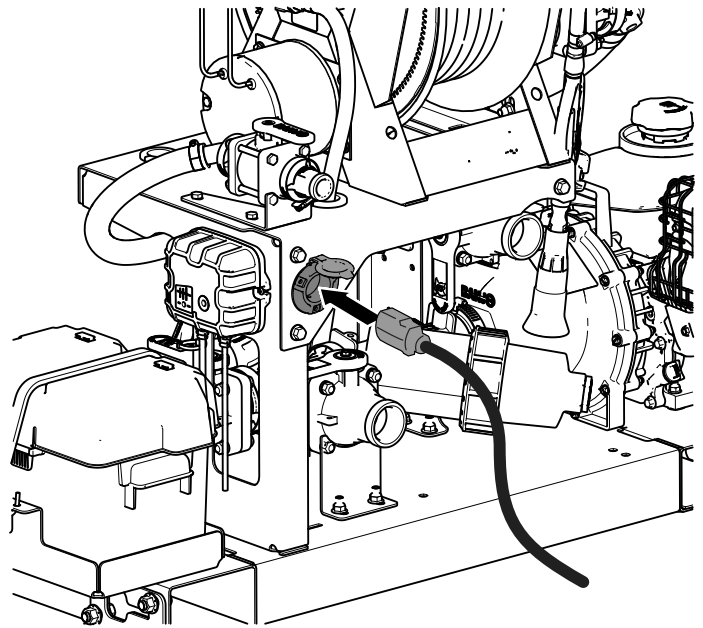

Figure 18
3. Open the charger port and plug in an extension cord (not included) connected to a 120V GFCI electrical outlet (Figure 18).